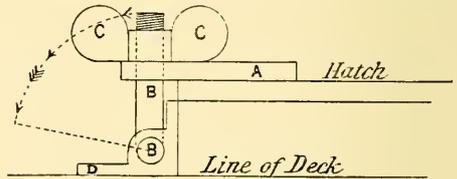

FIG. 243.
hatch, and in the projecting edge of it has a slot cut. (See Figs. 243, 244, 245, 246).
B is a screw at one end, and on this end works a butterfly nut (C) (Figs. 243, 244, 245) the other has two short arms at right angle to the upper part (see Figs. 243, 244, 245) which